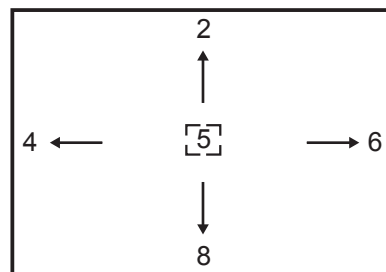

Fig.2
- (5) Select the location you want to adjust by using the [number (2/4/5/6/8)] keys on the remote control unit. [Fig.2]
- (6) Press the [SELECT] key to change the color of the box to the color of the cross you want to adjust (red or blue).
- (7) Use the [function up/down] key and the [function left/right] keys to adjust the position of the cross.
- (8) Adjust the three colors crosses until they overlap and appear as a single white cross.
- (9) Press the [OK] key.